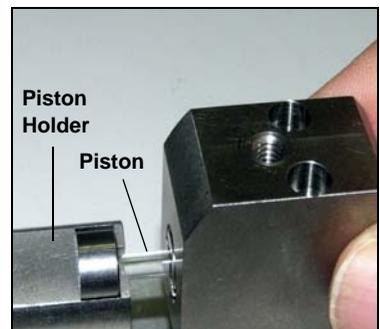

Figure 5-22. Static Valve
9. Using a 2.5-mm hex wrench, remove the four screws (④) that secure the static valve to the Dionex ASE 350.
10. Remove the static valve assembly from the system and place it on the workbench (see Figure 5-22).